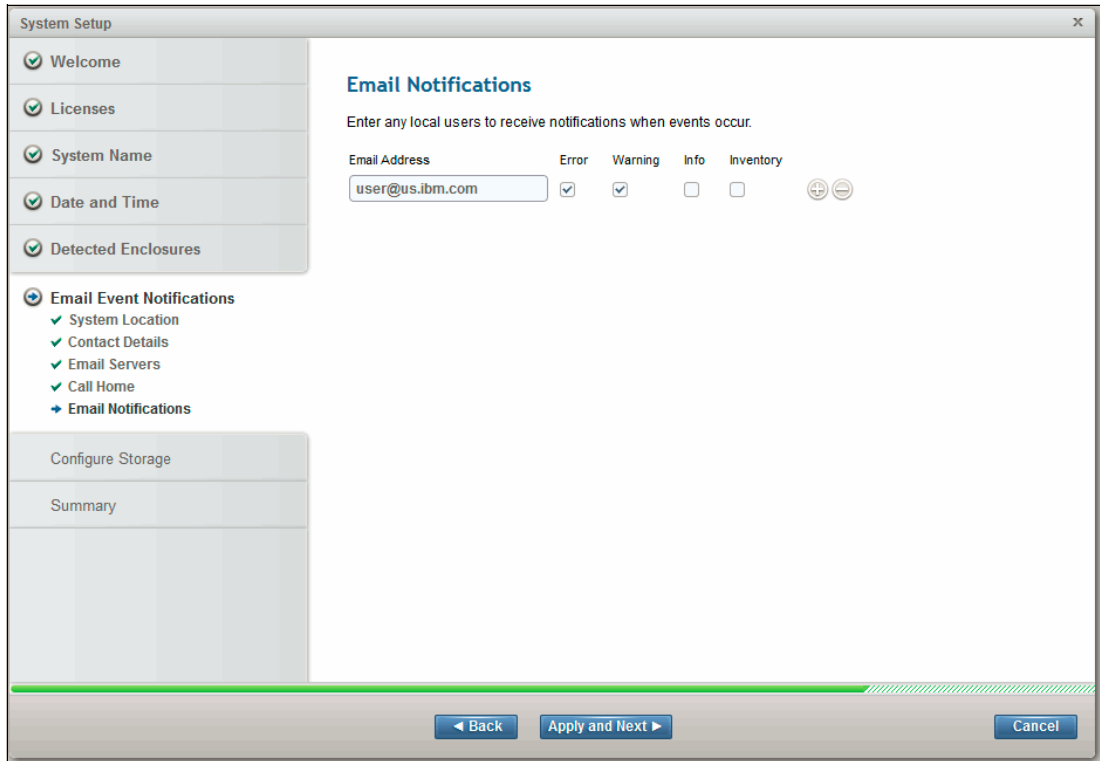

Figure 5-26 Email Notifications
19. Click **Apply and Next**, and you are taken to the next step, which is Email Notifications, as shown in Figure 5-26 on page 113.